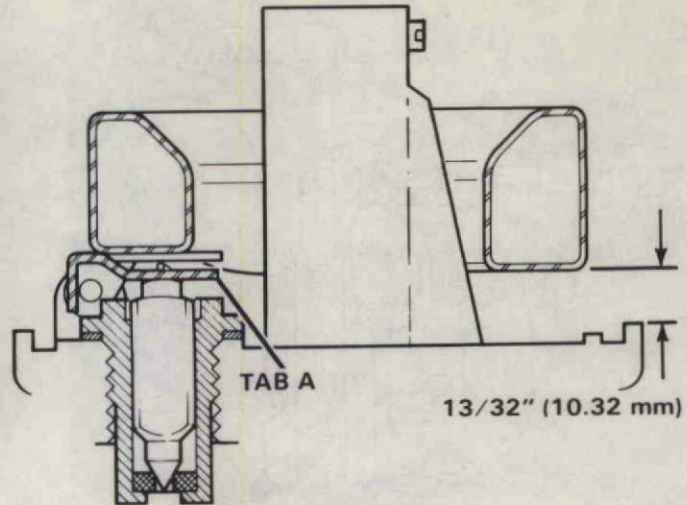

Figure 18. Adjusting Float Height (Fuel Level).
- A. Hold carburetor upside down so float weight closes needle valve. Figure 18.